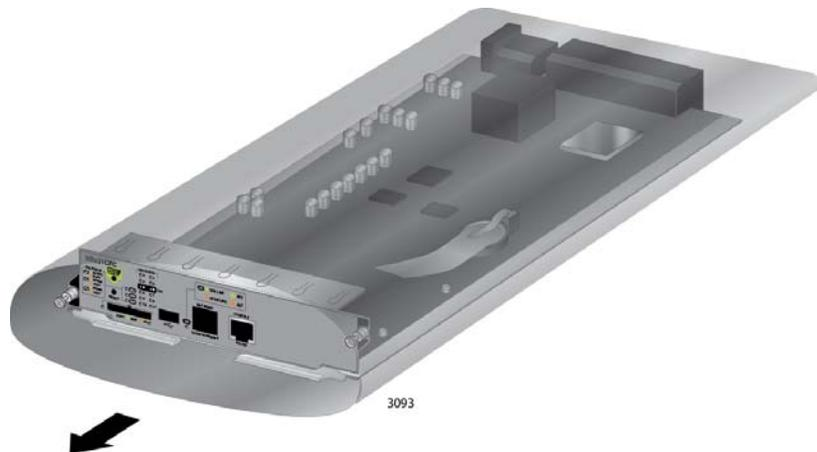

Figure 67. Removing the AT-SBx31CFC Controller Fabric Card from the Anti-static Bag
3. Carefully remove the controller card from the anti-static bag. Refer to Figure 67.